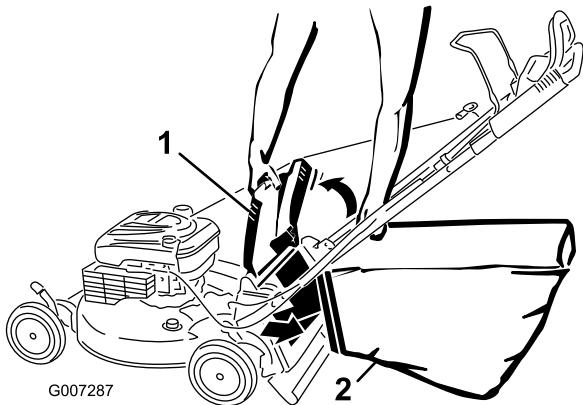

Figure 23
4. Hang the upper front edge of the bag on the notches (Figure 23).
- Install the rear-discharge plug (Figure 23).